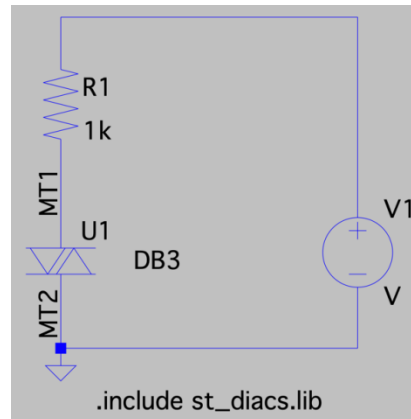

Fig. 6.2. Circuit for DIAC Characteristic Curve.
1. Construct the circuit shown on Fig. 6.2. Don't forget to include the library model file of the DIAC. (Use the .include directive)